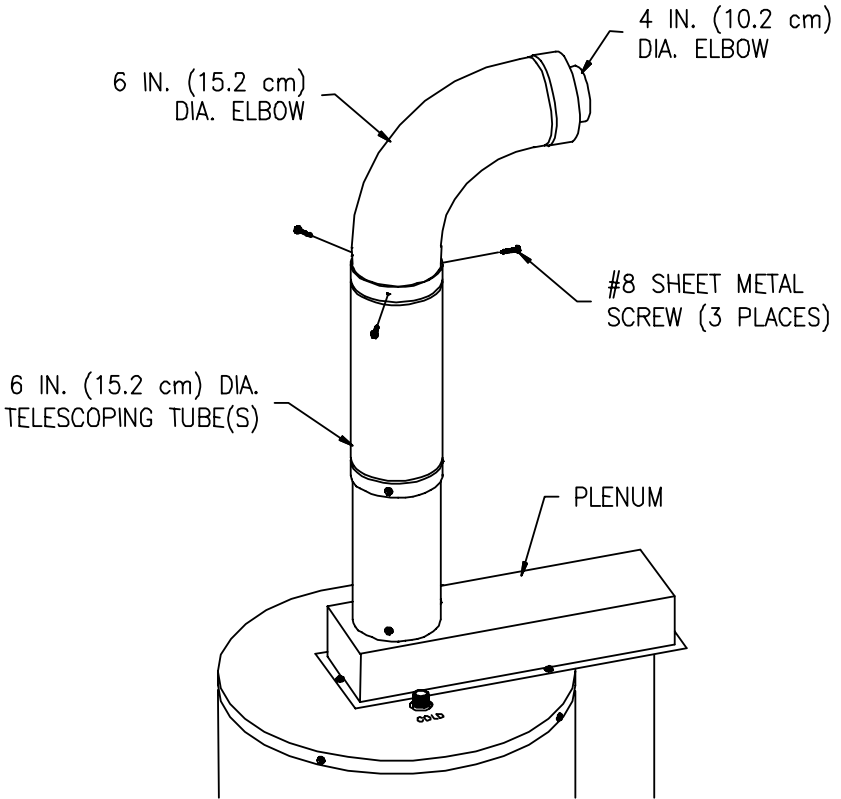

Figure 9
8. Place the straight end of the six (6) inch (15.2 cm) diameter elbow over the four (4) inch (10.2 cm) diameter elbow into the end of the six (6) inch (15.2 cm) diameter telescopic tube(s), one (1) inch (2.5 cm) (*or until seated*). Make certain that the six (6) inch (15.2 cm) diameter elbow is oriented in the same direction as the four (4) inch (10.2 cm) diameter elbow and both are oriented in the correct direction. Drill three (3) 1/8 inch (3.2 mm) diameter holes, 120° apart, through the six (6) inch (15.2 cm) diameter telescopic tube(s) into the six (6) inch (15.2 cm) diameter elbow. Fasten with three (3) #8 sheet metal screws (supplied). (See Figure 9).